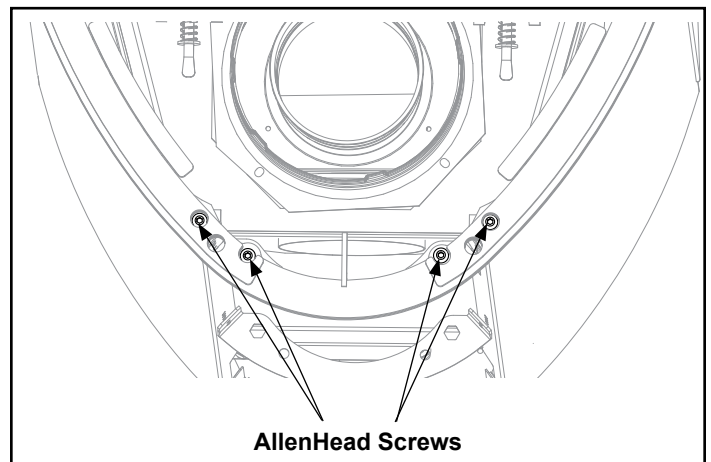

Figure 8.7
3. Remove and retain the Allen head screws that hold the solid back panel in place. (Figure 8.7) Remove and discard the solid back panel.